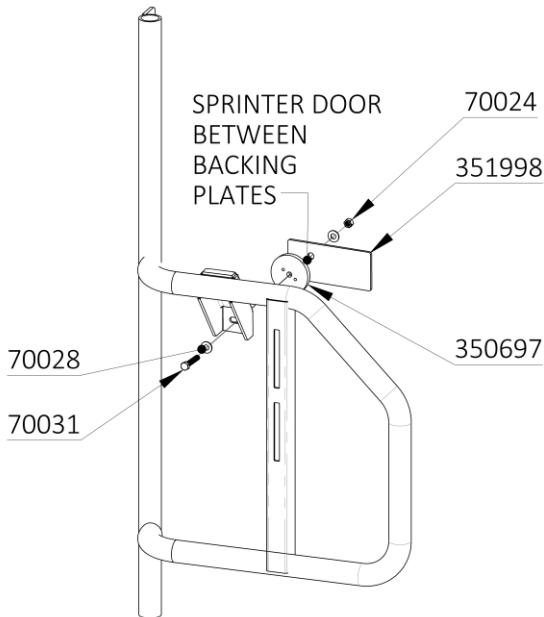

Figure 14: Loosely Installed Center Latch
20. Loosely install all bolts through the brackets and rack before tightening, see Figure 14.